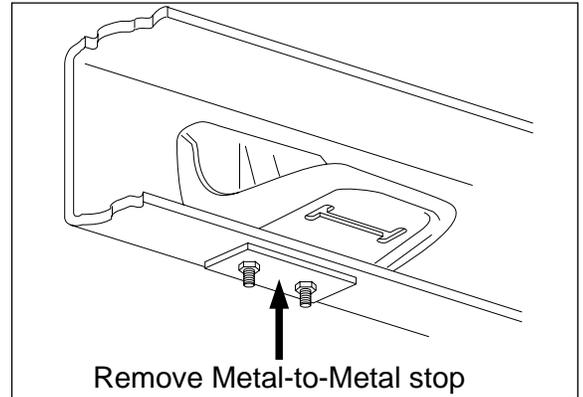

Figure 4
2. Remove the two nuts and bolts holding the metal to metal stop to the frame (Figure 4). Discard these parts. Replacement nuts and carriage bolts are provided.